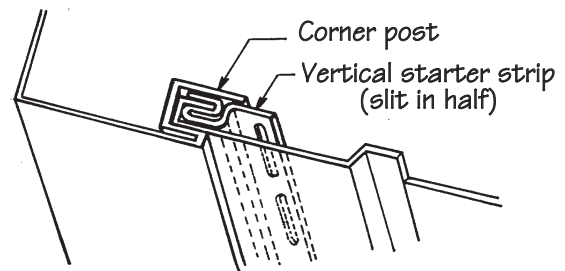

Figure 52.
- Create a vertical starter strip by cutting the nailing hem and adjacent lock off a vertical siding panel. Fasten it inside the receiver channel of the corner post. Be sure this piece is plumb. Leave enough clearance in the pocket of the corner post to allow the siding panel to be attached (Fig. 52).